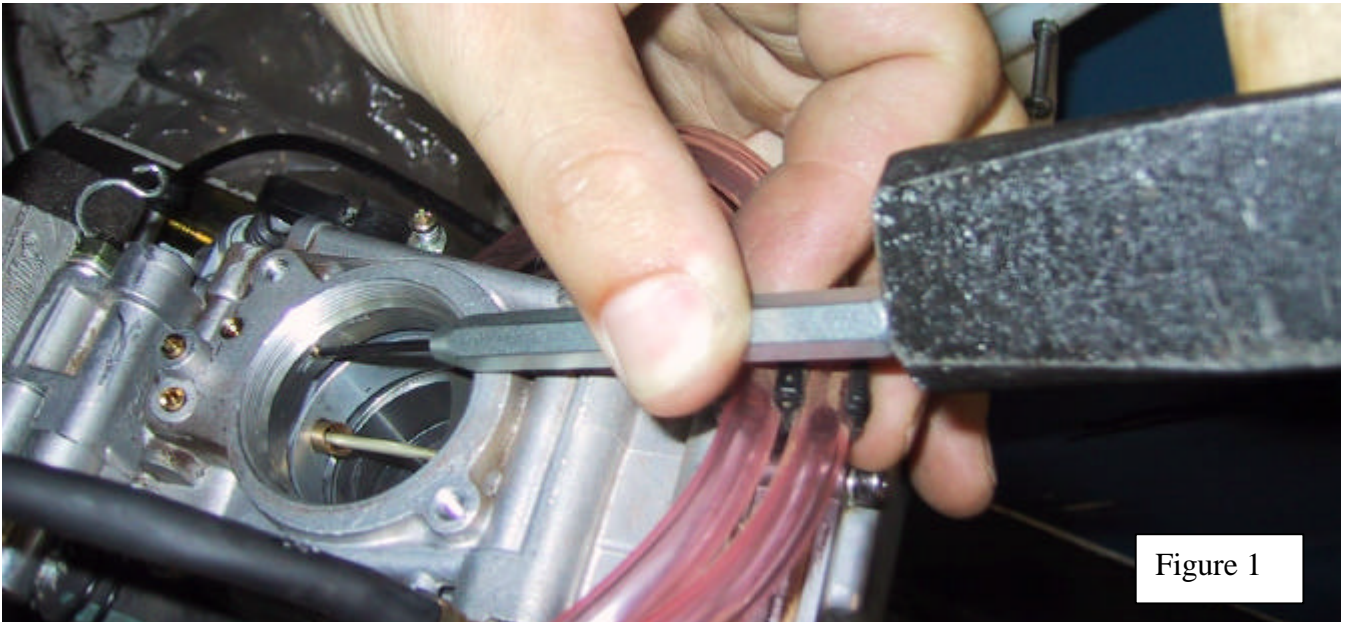
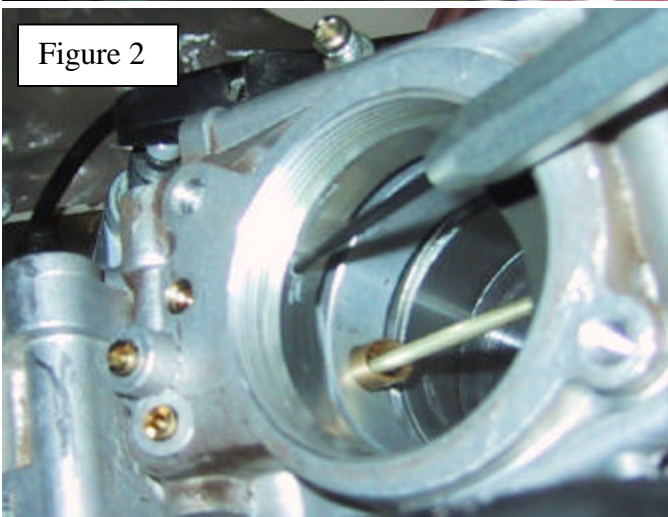

Figure 1
Figure 2
2. Remove the acceleration pump jet hammering gently on a pin remover $\varnothing 2\text{mm}$ (see figure 1) against the jet head so as to extract it from the seat as shown in figure 2, until the ejection of the ball (keep it to close the jet seat) and fully eject the the old jet;